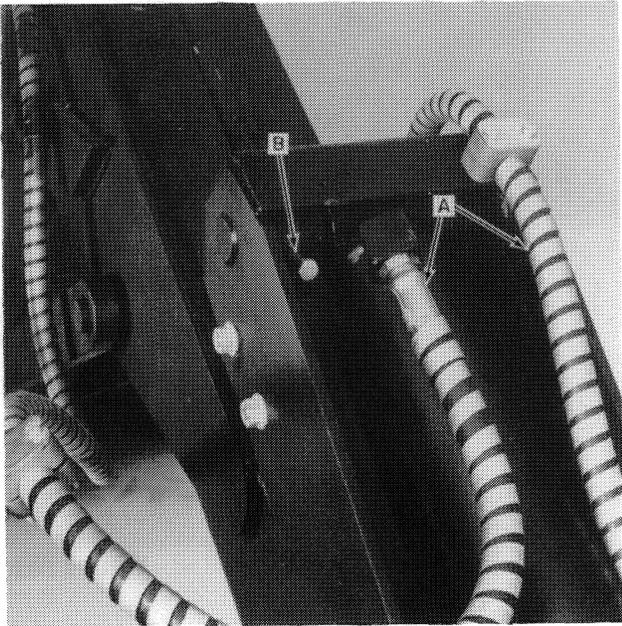

FIGURE 2-15A
3. Remove the bucket hydraulic lines, A, Figure 2-15A. Remove the rear bucket cylinder clevis pin after removing retainer bolt, B.
Install the bucket cylinder upper cylinder pin and retaining bolt, B, Figure 2-15A. Connect the hydraulic hoses to the bucket cylinder.